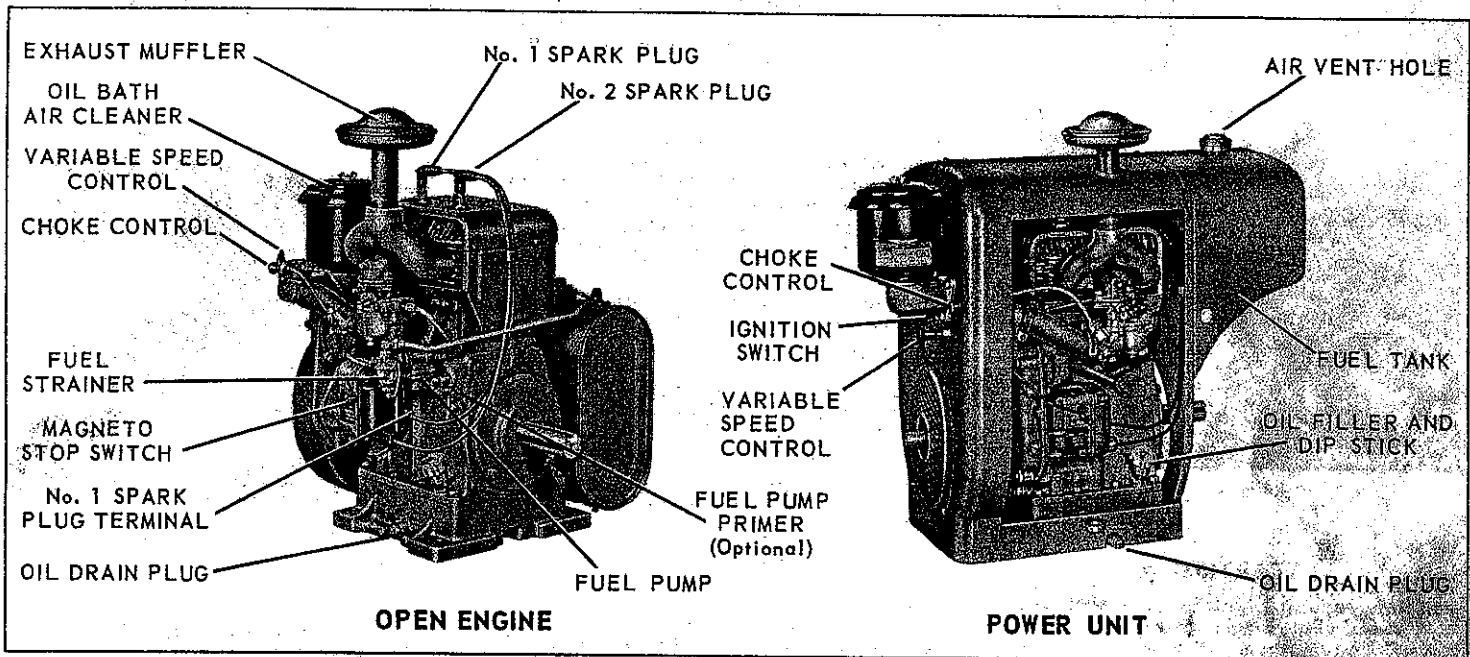

Fig. 1, REFERENCE VIEWS
2. Fill crankcase base with the proper grade of engine oil as specified in "GRADE OF OIL CHART". The capacity is 3-1/2 quarts, indicated by a FULL mark on the dip stick. The combination OIL FILLER and DIP STICK is mounted on the carburetor side of engine, Fig. 1, but can be located on the starting motor side as an option.
With reference to Fig. 1: Engines enclosed in a sheet metal house are referred to as Power Units, whereas those without a house are called Open Engines.
Magneto ignition (open engines) have a lever type ground switch on the side of the magneto. **DEPRESS AND HOLD DOWN UNTIL ENGINE STOPS.** See Fig. 1.